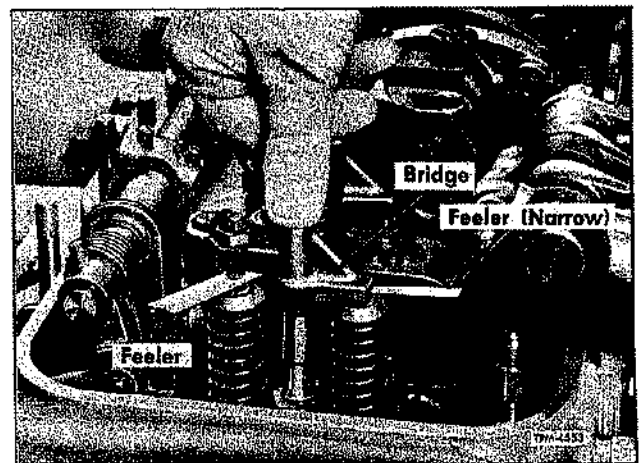

Figure 3—Valve Bridge Adjustment Check
9. Place a .0015" feeler under each end of the bridge (fig. 3). **NOTE:** Feeler used at inner end of bridge must be narrow enough to fit in bridge locating groove. Pressing down on the pallet surface of the bridge, both feelers must be tight. If both feelers are not tight, readjust the screw as previously instructed.